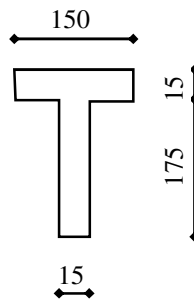

Fig. 7
6. A horizontal cantilever beam 2m long has a T shaped section as shown in figure 7. It carries a uniformly distributed load of 10kN/m along its entire length. Calculate the maximum tensile and compressive stresses. (20 marks)